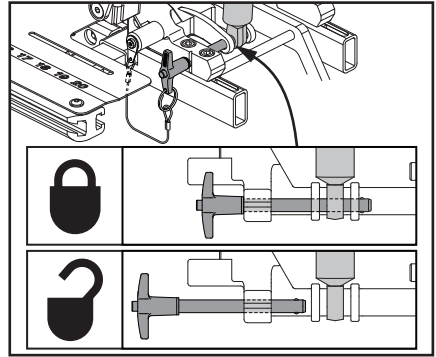
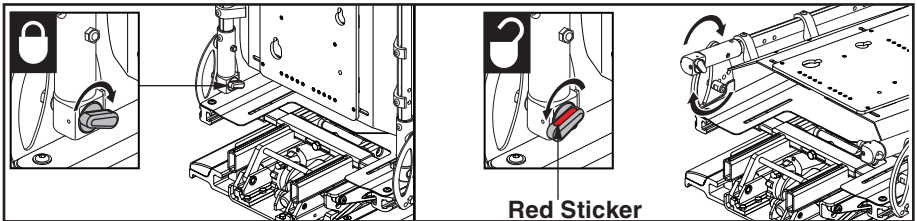

Figure 6. Flip-forward Back (Detent Pin)
Figure 7. Flip-forward Back (Release Lever)
1. Remove the detent pin (**see figure 6**) **OR** rotate the release lever on both back canes toward the rear of the seat to disengage the back. **See figure 7.**
2. Reinstall the detent pin and ensure all components are secure (**see figure 6**) **OR** rotate the release lever on both back canes toward the front of the seat to latch the back canes. Ensure a red sticker on the release lever is not visible. **See figure 7.**